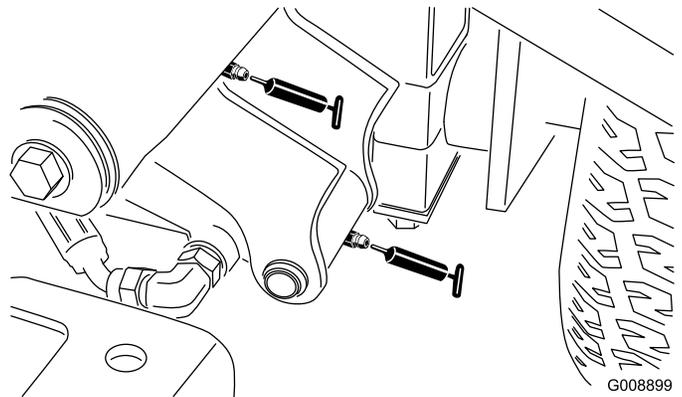

Figure 38
- Left front lift-arm pivot and lift cylinder 2 (Figure 38)